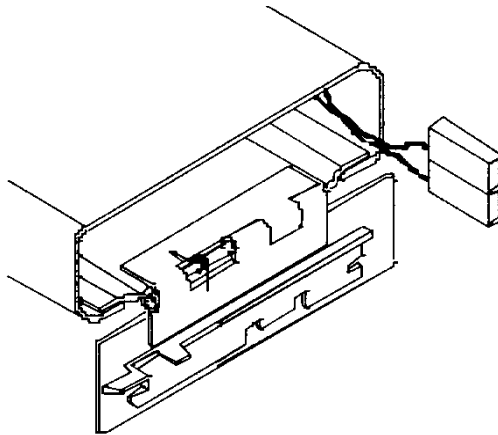

Figure 4.2
- 4.2 Position the battery connector as shown in Figure 4.2.